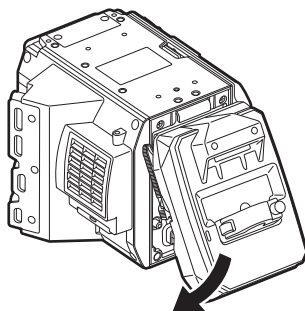

Fig. 2
- 2** Firmly push in the recording module and connect the connection terminals of the recording extension module and recording module. (Fig. 2)